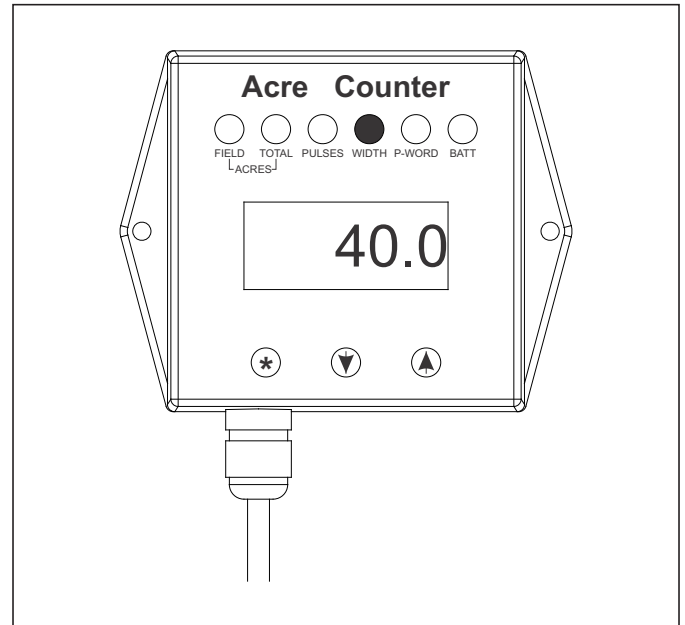

Figure 4-49: Drill Width
1. Press the **FUNC** button until the “**WIDTH**” LED is lit. The number displayed is the length of your implement in feet *See Figure 4-49.*